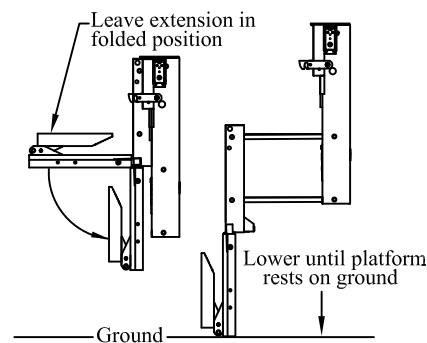

Figure 2: Lower the Platform.
2. **Remove** the platform drop chains and **Rotate** the platform until it hangs vertically (Fig. 2).
3. **Lower** the liftgate until the platform rests on the ground (Figure 2).